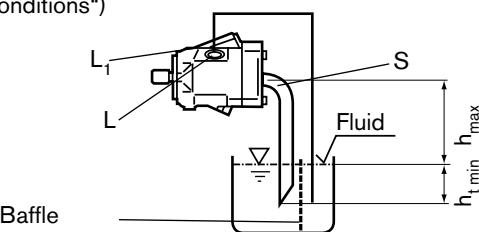

Fig. 4
b) If the min. fluid level is even with or below the top of the pump: pipe " L " and " S " acc. to fig. 4, " L_1 " plugged. (see also limit of conditions)
a) Mounting above the tank: see fig. 4. (see also „Limit of conditions“)